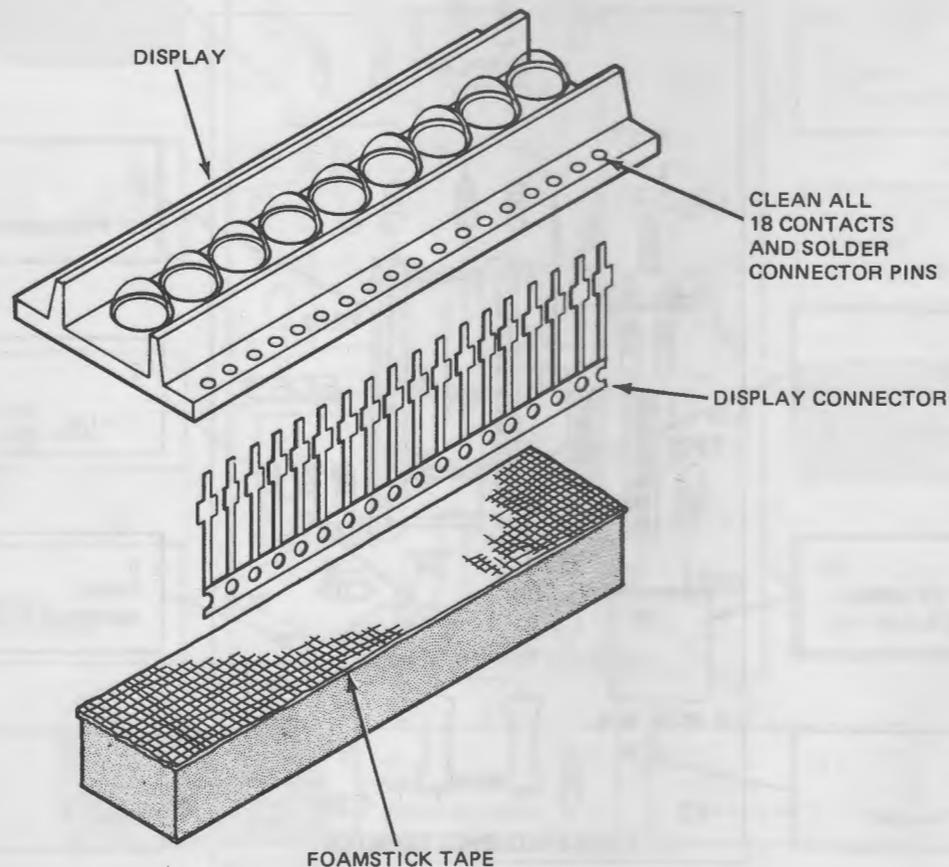

Fig. 5. Preassembling the display.
(2) Locate the six-digit, seven-segment display. Notice that there are 18 holes in the small circuit board on which the display is mounted, and that there is a gold plating around each of the holes. Clean the plated area on the side of the circuit board on which the display is mounted by rubbing with a soft pencil eraser. The metal should be bright and shiny when it is properly cleaned ()
(3) Now refer to Fig. 5 and insert the 18 pins of the 18-pin connector into the display circuit board. Making sure that the pins are at right angles to the circuit board, solder all 18 pins to the display ()
(4) Locate the length of foamstick tape and remove the paper backing from the adhesive side of the tape and install the tape just behind the 18-pin connector as shown in Fig. 5. Cut off any excess tape from the end of the display ()
(5) Finally, grasp the remaining carrier at the end of the 18 pins with your longnose pliers and break the carrier off, leaving the pins separated ()